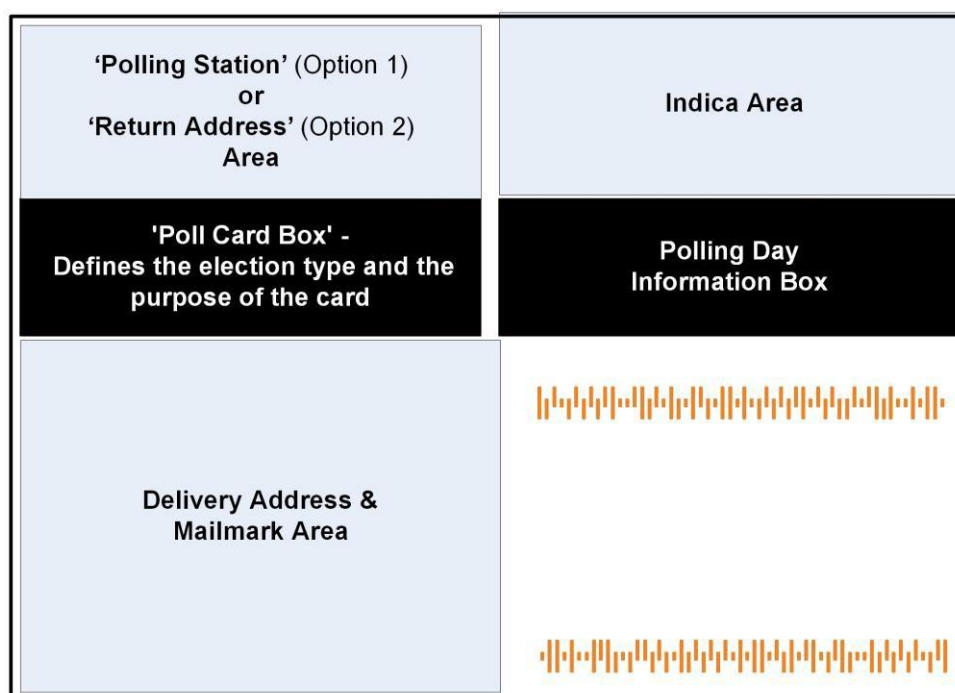

Figure 44: Poll Card Layout – Front
- a. The design requirements for the front of the Mailmark poll card are summarised below and illustrated in Figure 44.